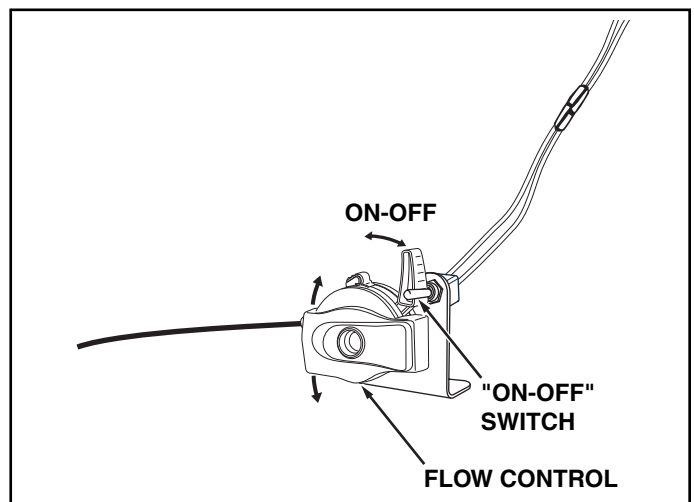

FIGURE 11
23. Move the flow control lever to "OFF". This should turn the "ON-OFF" switch off. If it does not, you can loosen the control and rotate it enough that the flow control lever, when moved to the "OFF" position will turn the switch off. See figure 11.